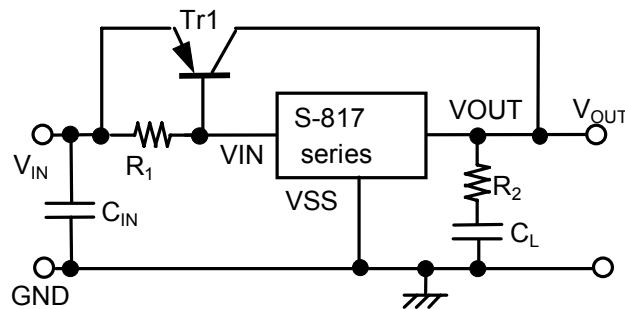

Figure 13
As shown in Figure 13, the output current can be boosted by externally attaching a PNP transistor. The base current of the PNP transistor is controlled so that output voltage V_{OUT} goes the voltage specified in the S-817 when base-emitter voltage V_{BE} necessary to turn on the PNP transistor is obtained between input voltage V_{IN} and S-817 power source pin VIN.
- To improve transient response characteristics of the output current boosting circuit shown in Figure 13, check that no problem occurs due to output fluctuation at powering on or due to power or load fluctuation under normal operating conditions.